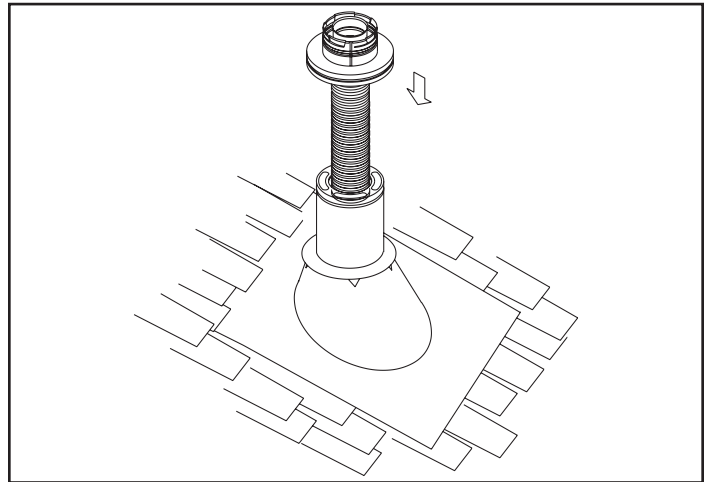

Figure 5.22
Step 4 - Pass the flex pipe down through the center of the chimney system, and center the top adaptor on the top of the chimney pipe. Drill four 1/8 in. (3mm) diameter holes through the top adaptor, and into the chimney top. Ensure that you are drilling into the metal on the chimney. Twist lock the high wind termination cap onto the top adaptor (Figures 5.22 and 5.23).